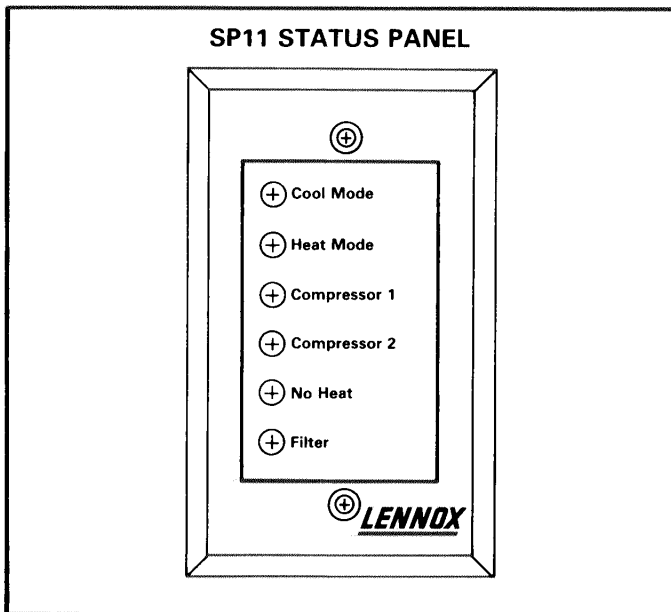

FIGURE 12
- 1 - The status panel allows remote monitoring of system operation. Two types of panels are available. The SP11 provides system readout only. The SSP11 switching status panel combines the switching subbase and status panel functions together. In addition, the SSP11 has a night setback override. Figures 12 and 13 show both models.